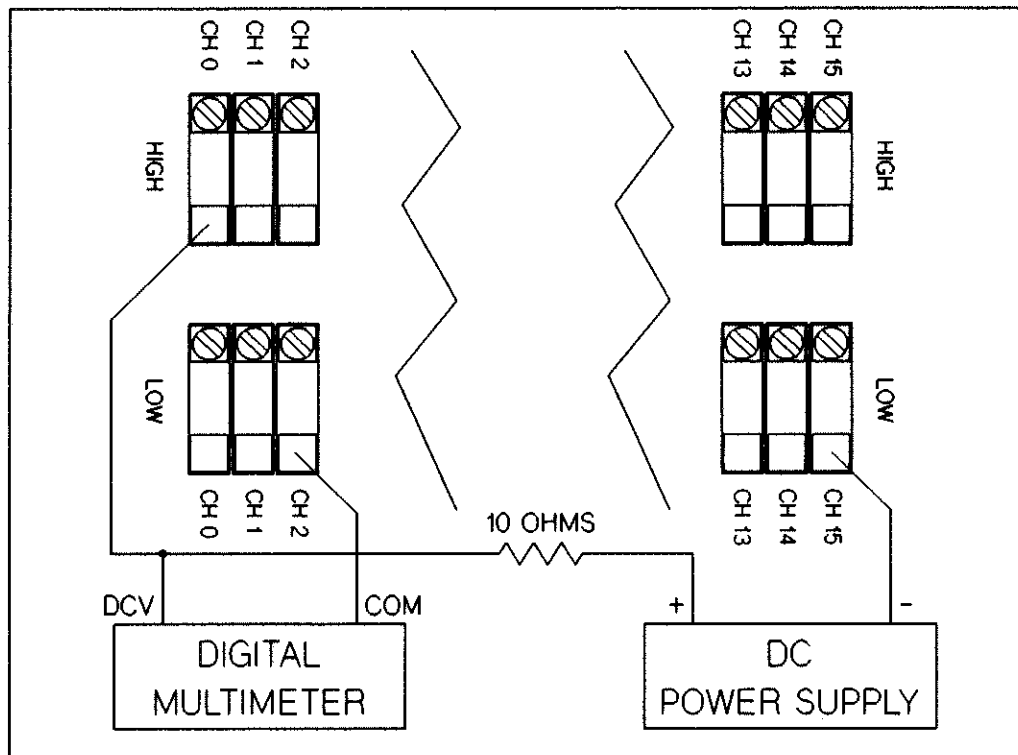

Figure 13-8 Even Channel Sink Current Test
8. Connect the COM (LO) input of the multimeter to the shorted **LOW** connections on the test fixture. the connections are shown in Figure 13-8.